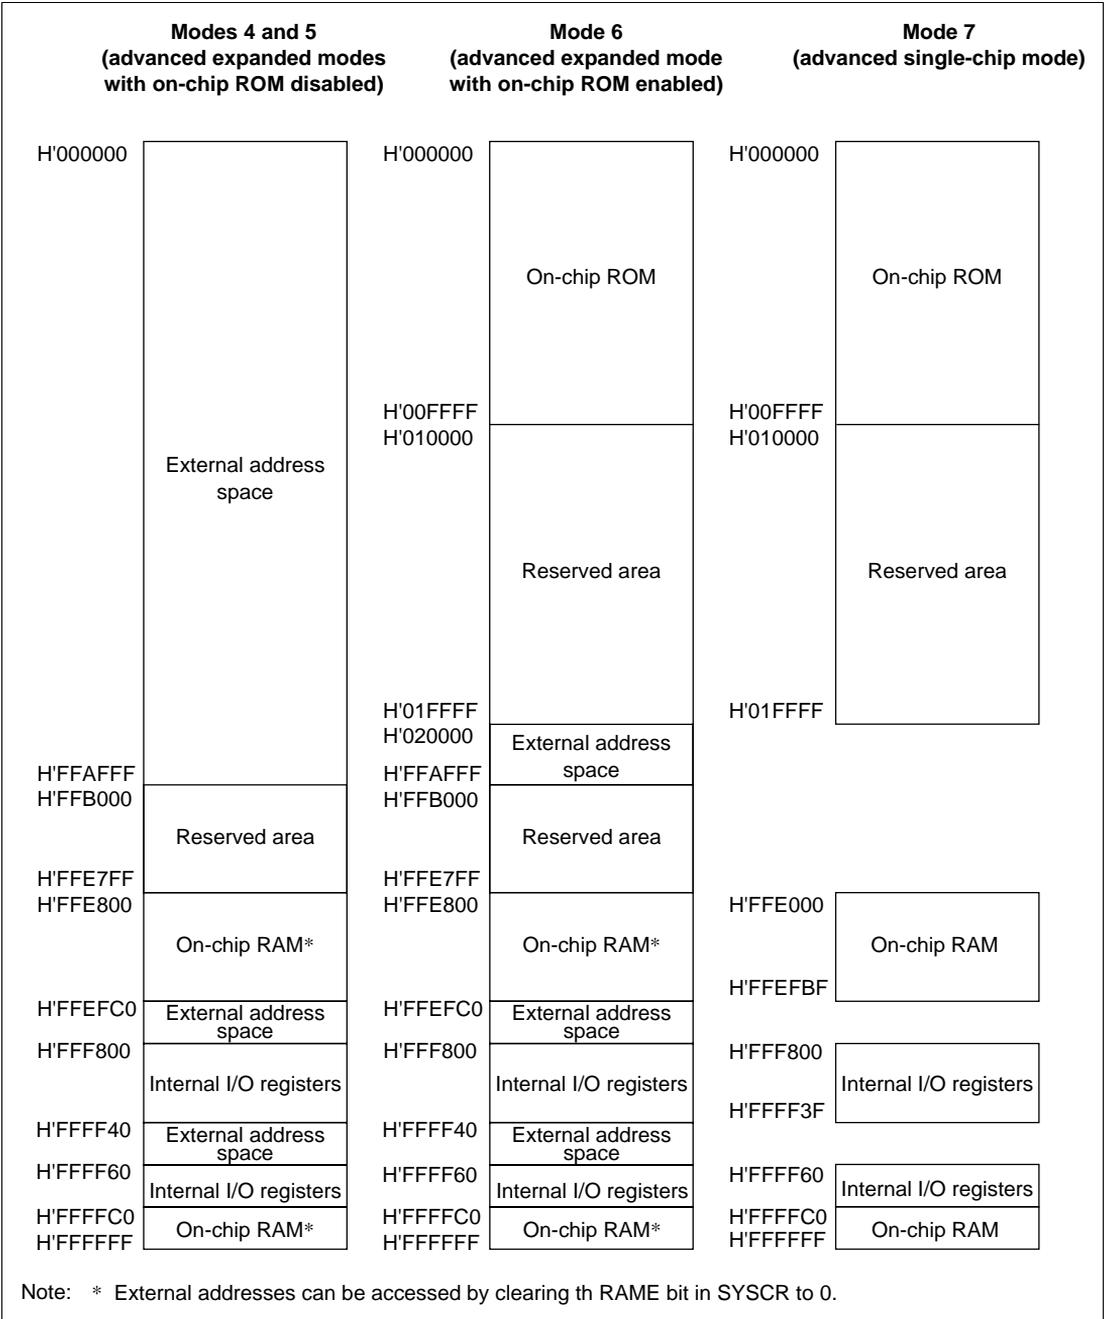

Figure 3-1 (2) Address Map in Each Operating Mode in the H8S/2645 and H8S/2647
A address maps of the H8S/2646 Series are shown in figures 3-1 (1) and 3-1 (2).